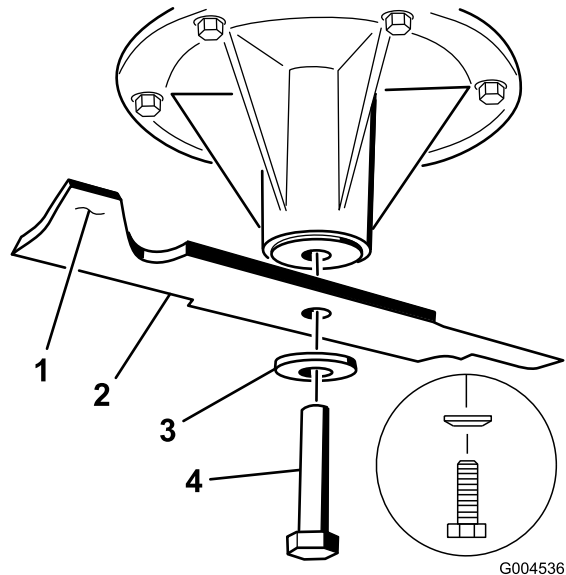

Figure 57
2. For 40 and 48 inch mower decks, remove the blade bolt, curved washer, and blade from the spindle shaft (Figure 57).
1. Install the blade onto the spindle shaft (Figure 57).
Important: The sail part of the blade must be pointing upward, toward the inside of the mower to ensure proper cutting (Figure 57).
2. For 40 inch and 48 inch mower decks, install the blade, curved washer, and blade bolt (Figure 57).
3. If the blade stays in a horizontal position, the blade is balanced and can be used. If the blade is not balanced, file some metal off the end of the sail area only (Figure 57)